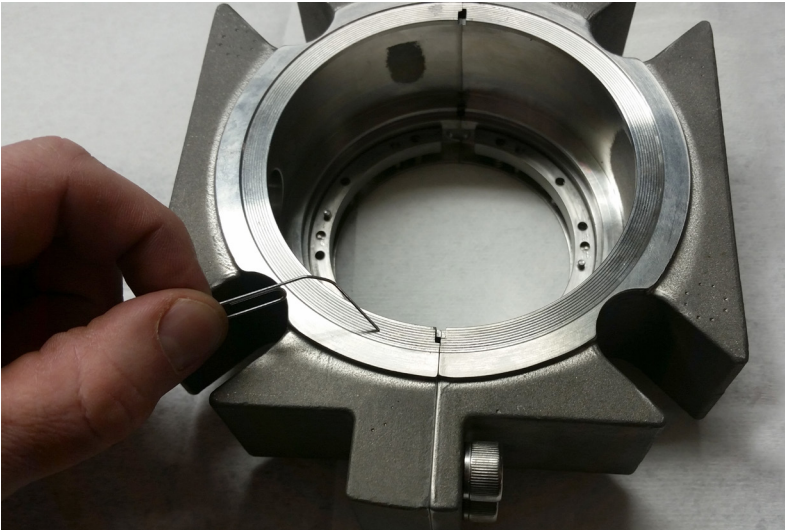

Figure 23
- 9.3 Using the wire end of a paperclip apply a dot of adhesive in the gland gasket groove about 6.3 mm (.25 in) from each side of the split joints, 4 dots total. See Figure 23.